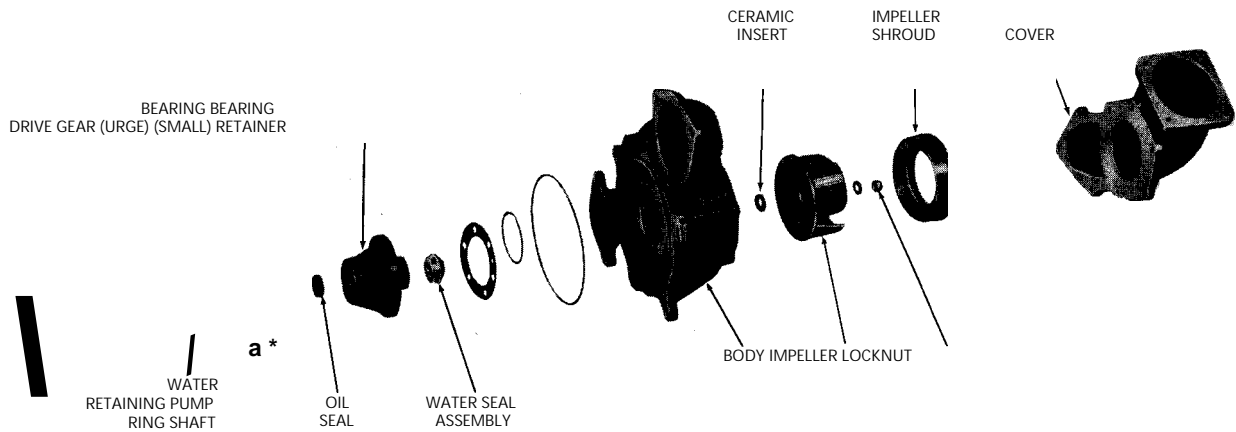

Fig. 3 - Water Pump Details and Relative Location of Parts (8V, 12V-149 Pump Shown)
1. Remove the pump cover and gasket (Fig. 3).
NOTICE: Refer to Fig. 3 unless otherwise indicated.